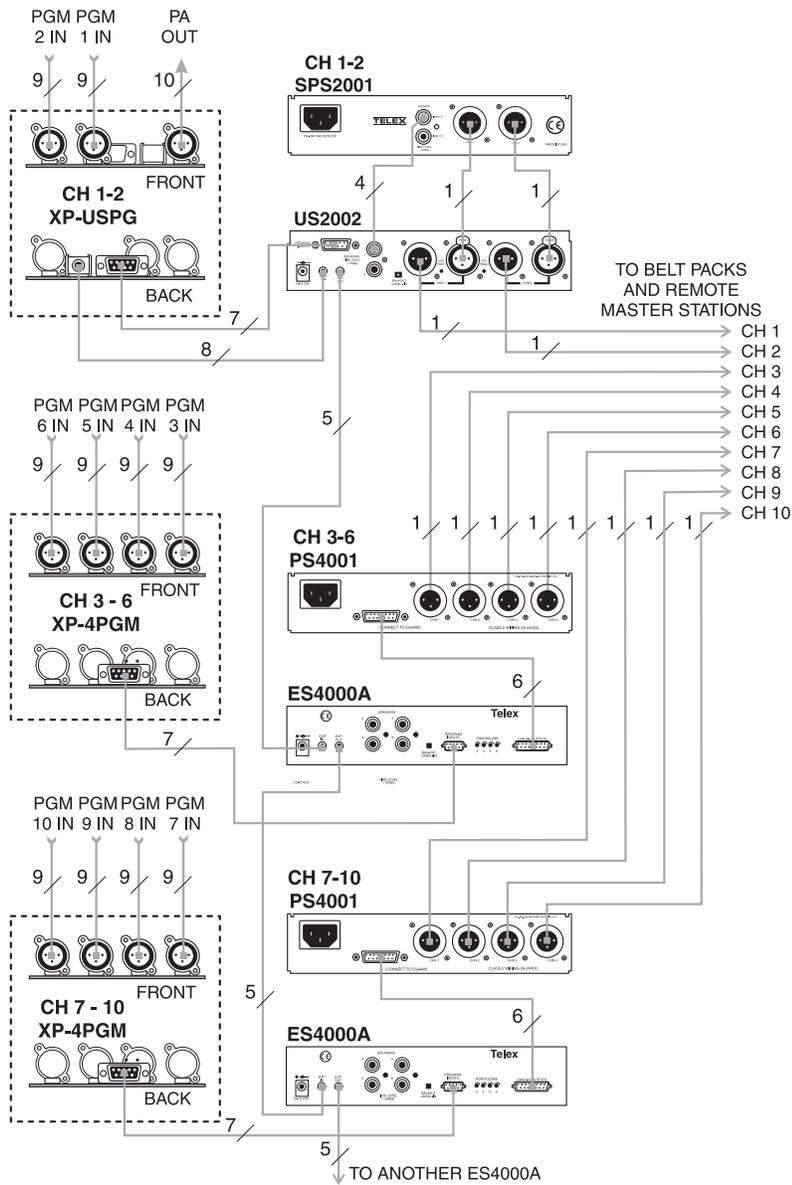
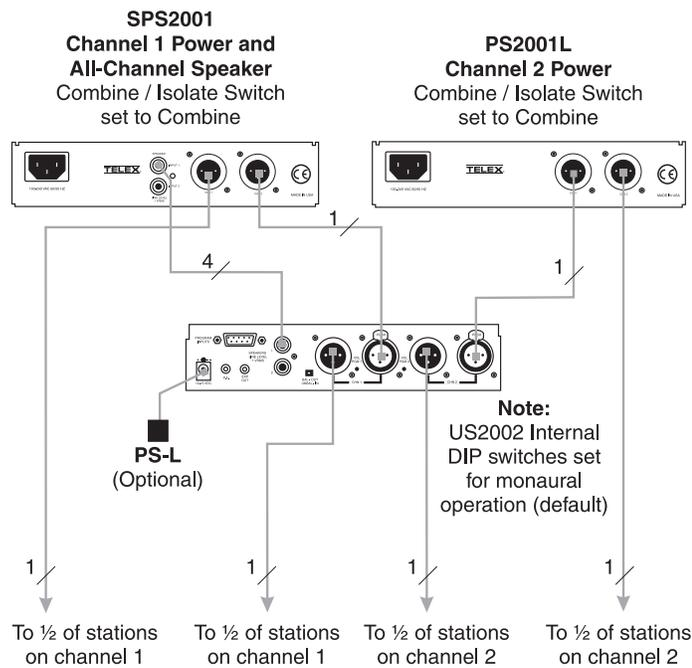

FIGURE 6. Central Master Station with simple power supply configuration.
FIGURE 7. Maximum Power Configuration for Channels 1 and 2.
The SPS-2001 provides power for channels 1 and 2, and also provides the listening speaker for all 10 channels. A microphone must be connected to the US2002 for talk on the 10 channels. Each PS4001 provides power for 4 intercom channels and also interfaces with an ES4000A to the intercom channels. The XP-USPG interfaces 2 external program inputs to the US2002, and also interfaces the US2002 to an external PA system. Each XP-4PGM interfaces 4 external program sources to an ES4000A. Connections and further details for this configuration are shown in Figure 6.
Each channel has a separate power supply, and the SPS-2001 on channel 1 also provides the listening speaker for all 6 channels. A microphone must be connected to the US2002 for talk on the 6 channels. The XP-USPG interfaces with two (2) external program inputs to the US2002, and also interfaces the US2002 to an external PA system. The XP-4PGM interfaces four (4) external program sources to the ES4000A. The XP-ES4000 interfaces four (4) of the PS2001L power supplies to the four (4) channels of the ES4000A. The connection between the US2002 and the ES4000A, as well as the connections of the XP-USPG and the XP-4PGM, are show in Figure 6. The power supply connections for the US2002 are shown in Figure 7. the power supply connections for the ES4000A are shown in Figure .
- Typical connections for the US2002, ES4000A and various power supplies are shown starting with Figure 6. Select the configuration which most closely matches your intended usage.
This 10-channel provides all of the channel power and program input connections for the intercom system. This configuration should only be used at one point in the intercom system. It is ideal for smaller intercom systems with fewer remote intercom stations. For optional power configurations that permit more stations, see Figures 7 through 10.
This power supply configuration should only be used at one point in channels 1 and 2. Typically, it is set up at the central master station. This configuration permits about twice as many remote stations on channels 1 and 2 than the configuration shown in Figure 6 on page 14.
This power supply configuration should only be used at one point in each group of four (4) channels. Typically, it is set up at the central master station. It permits about twice as many remote stations on the four (4) channels than is possible with the power supply configuration shown in Figure 6.
This power supply configuration should only be used at one point in each group of 4 channels. Typically, it is set up at the central master station. It permits about four times as many remote stations on the 4 channels than is possible with the power supply configuration shown in Figure 6.
This intercom station can have the same functionality as the central master station shown in Figure 6. Alternatively, you can disable some of the advanced features, such as Mic Kill, program inputs, etc. This will limit the station’s functionality to be a common user station with multi-channel talk/listen capability.